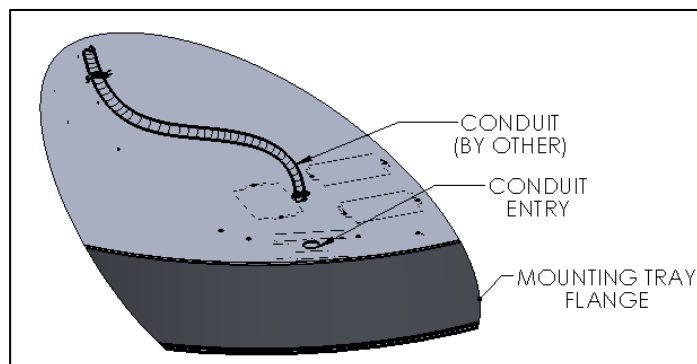

FIG. 9 – CONNECTING CONDUIT TO RECESSED HOUSING
3. With multiple people, raise RECESSED HOUSING to ceiling and connect conduit to recessed shown in FIG.9, Mount RECESSED HOUSING by fastening to 1/4-20 threaded rods (installed in step 3 of INSTALLATION PREPARATION procedure) with hex nut [by other], ensuring that the flange on recessed housing coincides with the designated height of the grid ceiling.